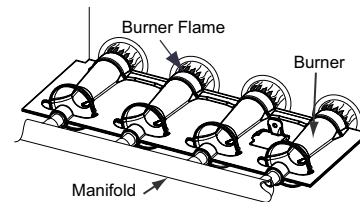

Fig. 64 – Burner Flame
- c. When correct input is obtained, replace caps that conceal gas valve regulator adjustment screws. Main burner flame should be clear blue, almost transparent. See Fig. 64.